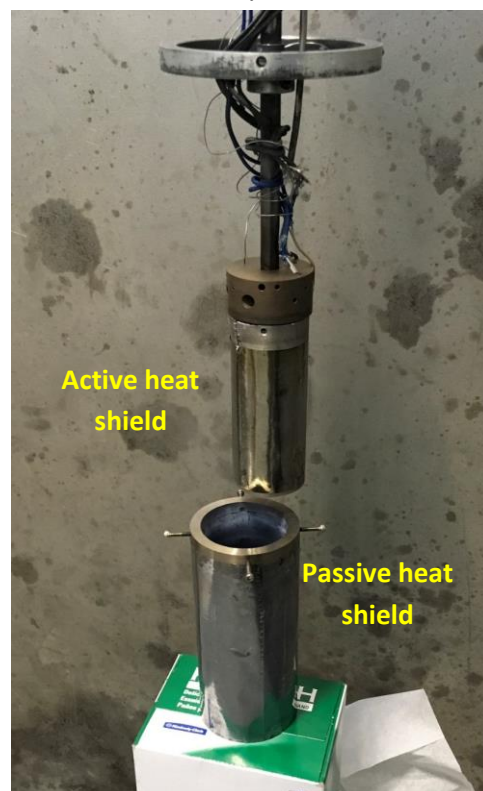

Figure 5. Sample stick and heat shields.
- n. Remove the passive heat shield (Figure 5) by backing out the four screw posts.